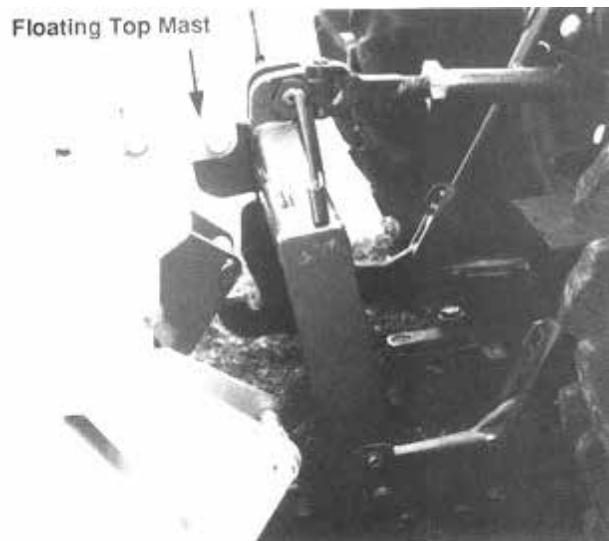

Figure 18. Free-float position
4. **3-Point models only:** Be sure the floating mast is free to slide in its mounting frame to allow the machine to follow ground contours. Refer to Figure 18.